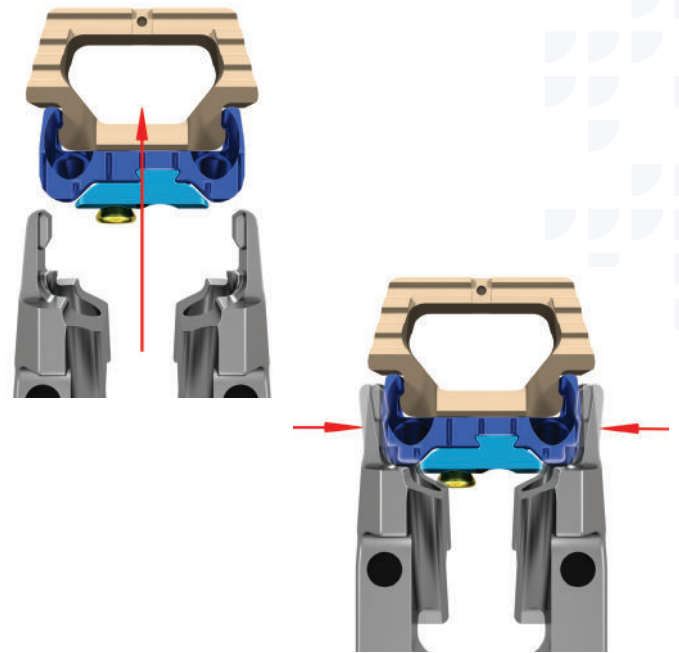

Figure 24
- Assemble the ATO inserter guide to the modular impaction cap handle. The ATO inserter guide grasps the outside of the plate by engaging the plate pockets. With the gold locking screw oriented on the left and guide circular markings facing upward, attach the ATO inserter guide around the outside of the plate. The ATO inserter guide snaps into place when the tabs are fully seated in the plate pockets (Figure 24, top).
Note: The circular markings on the ATO inserter guide should face upward when assembling the plate to the inserter. These markings are for orientation only, indicating the direction the two lateral screws will point in situ (Figure 24, bottom).